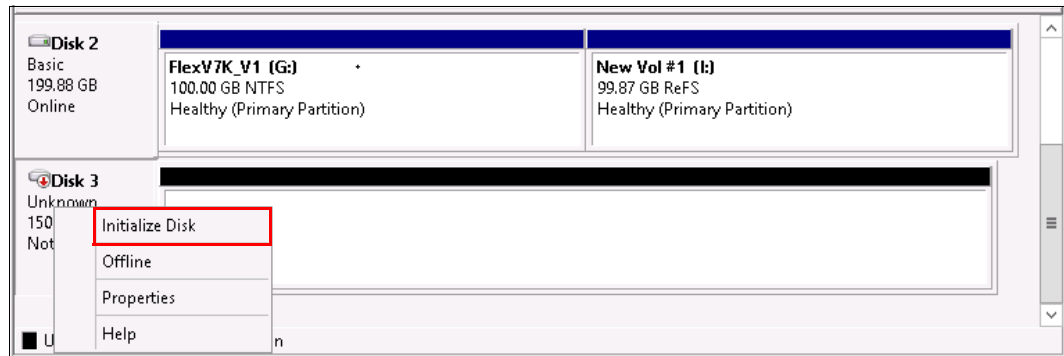

Figure 12-8 Initialize Disk option
8. Right-click the disk again, click **Initialize Disk** (Figure 12-8), and click **OK**.